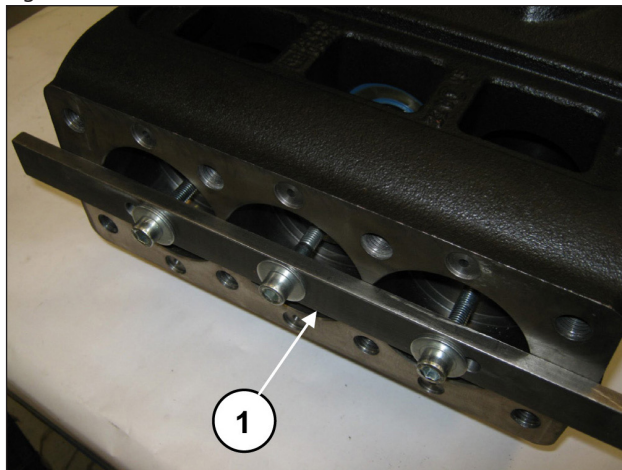

Fig. 19
Advance the half supports completely in the direction of the hydraulic part to allow the bend shaft to come out. To facilitate this operation, use special tool (code 27566200), (pos. ①, Fig. 19).